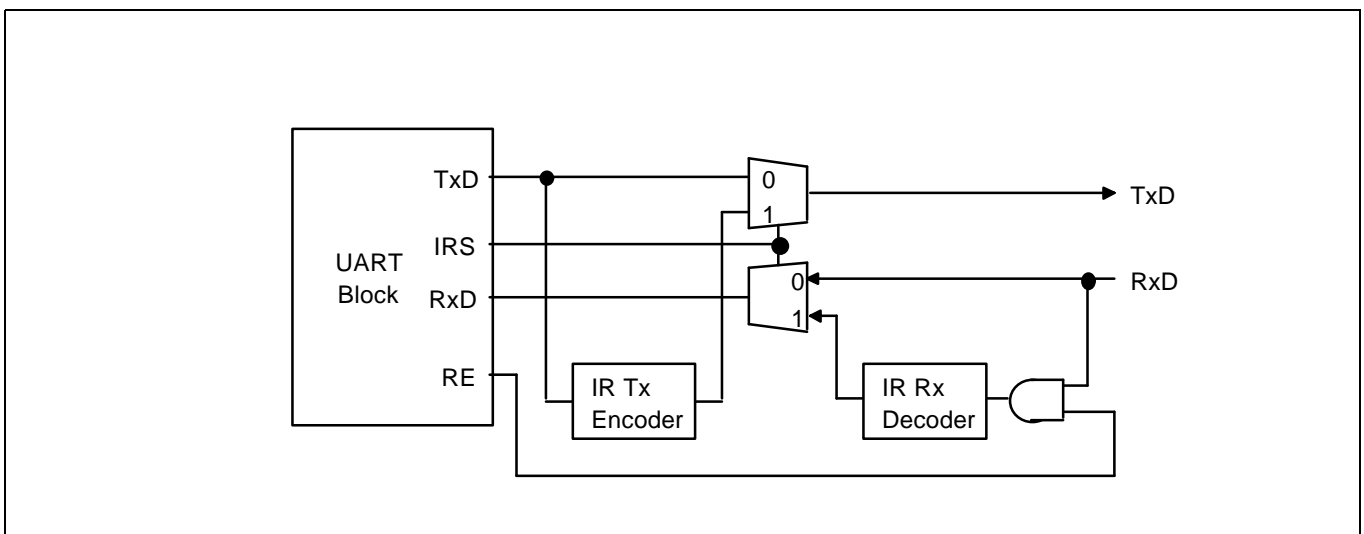

Figure 11-2. UART Block Diagram
The KS32C6200 UART block supports infra-red (IR) transmit and receive, which can be selected by setting the infra-red-mode bit in the line control register (ULCONn). The implementation of the mode is shown in Figure 11-2.